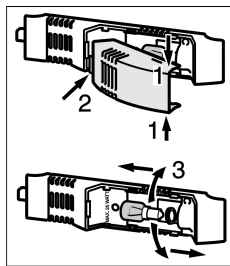

Fig. 14
- ▶ Take hold of the lamp cover at the top and bottom *Fig. 14 (1)*.
- ▶ Disengage the lamp cover at the back and detach it *Fig. 14 (2)*.
- ▶ Replace the bulb *Fig. 14 (3)*.